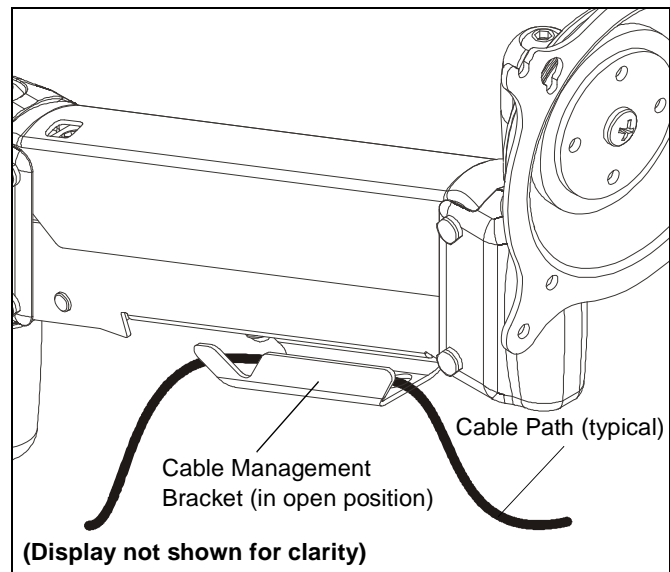

Figure 10
- Carefully insert cables into bracket (See Figure 10).